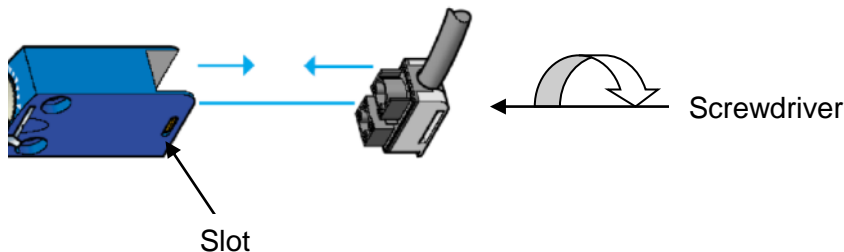

Fig. 5.1
2. For an easier handling, it is possible to remove the connector of indicator switches Fig.5.1. Unlock the connector by inserting the screwdriver behind the connector and turn it a 1/4 of a turn counter-clockwise and then insert the screwdriver into the slot at the side to release the connector.